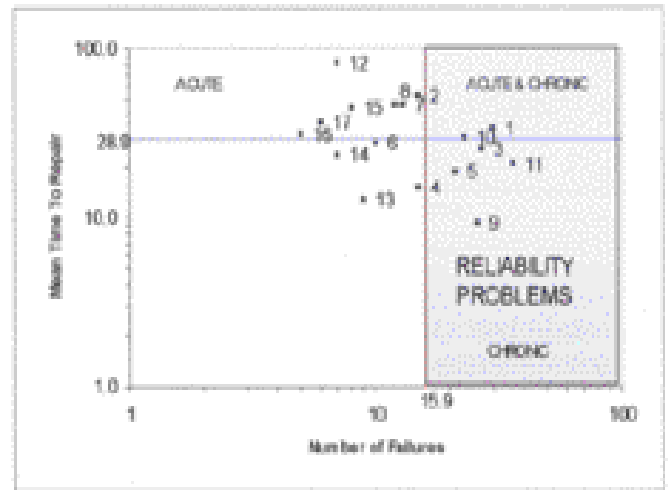
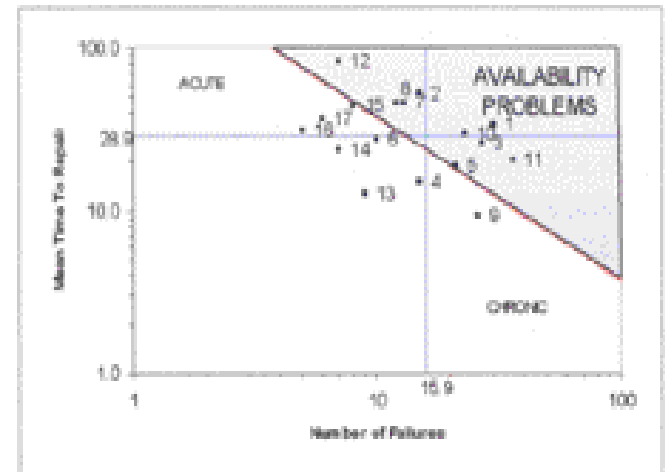

Figure 5: Shovel Fleet Reliability Problems
Figure 6: Shovel Fleet Availability Problems
Returning to the logarithmic scatterplot, the chronic failures are those that contribute most to the number of observed failures, N . These are the electrical failures that most affect the reliability from the shovel fleet under examination (see Figure 5). Finding solutions to the root causes of these failures will most increase shovel MTBF.
Similarly, Figure 6 shows those failures that most affect shovel fleet availability. In this case, the position of the diagonal downtime limit was determined from the Pareto analysis as the line defining 80% of fleet downtime. Finding solutions to the root causes of these failures will most increase shovel fleet electrical availability. The failure code 9 (lighting system) is an interesting case. It was identified in Figure 5 as a reliability problem; solving this problem would increase MTBF and could therefore be expected to also increase fleet electrical availability. In fact, on average repairs to the lighting system require very little time. If it were possible to eliminate these failures, the MTTR for the remaining electrical failures would actually increase. Referring to equation (8), the effect of increased MTBF is largely negated by the increase in MTTR and comparatively little availability gain can be expected by eliminating shovel lighting failures.